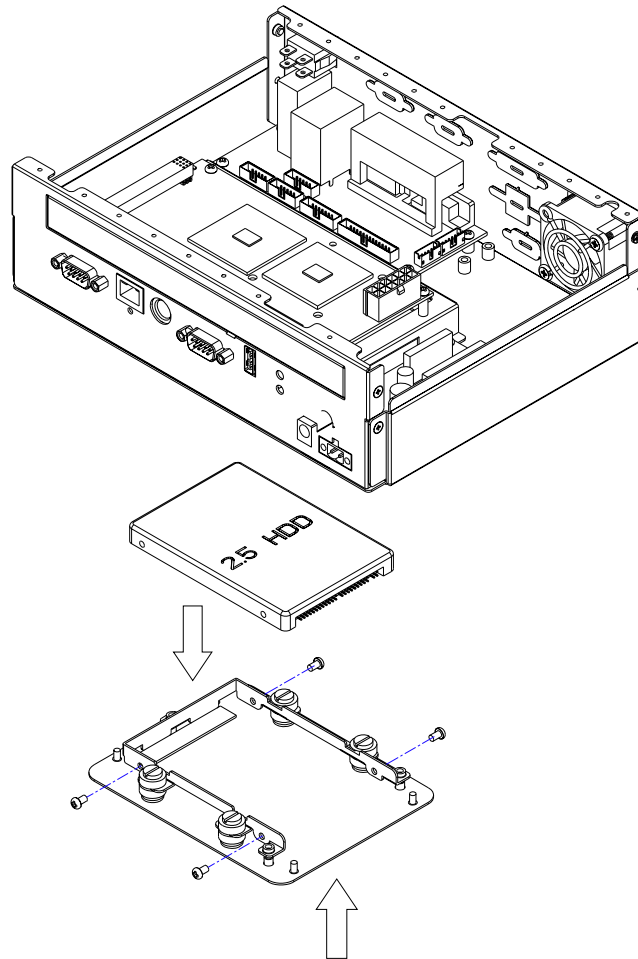

Figure 2.6 Installing the 2.5" HDD
1. To install the 2.5" internal HDD, remove the bottom cover by releasing the four screws. (see Figure 2.6)